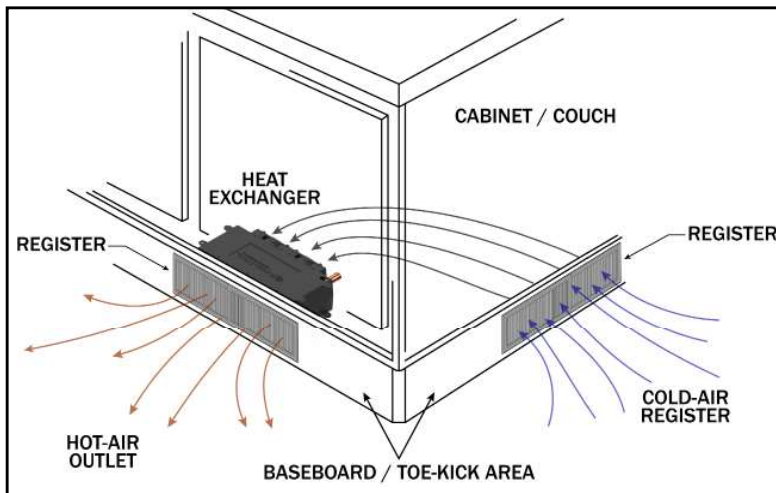

Figure 63
1. Cut out a 2.5" x 10" (7cm x 26cm) opening for each heat exchanger outlet and cold-air return grate as shown in Figure 63.